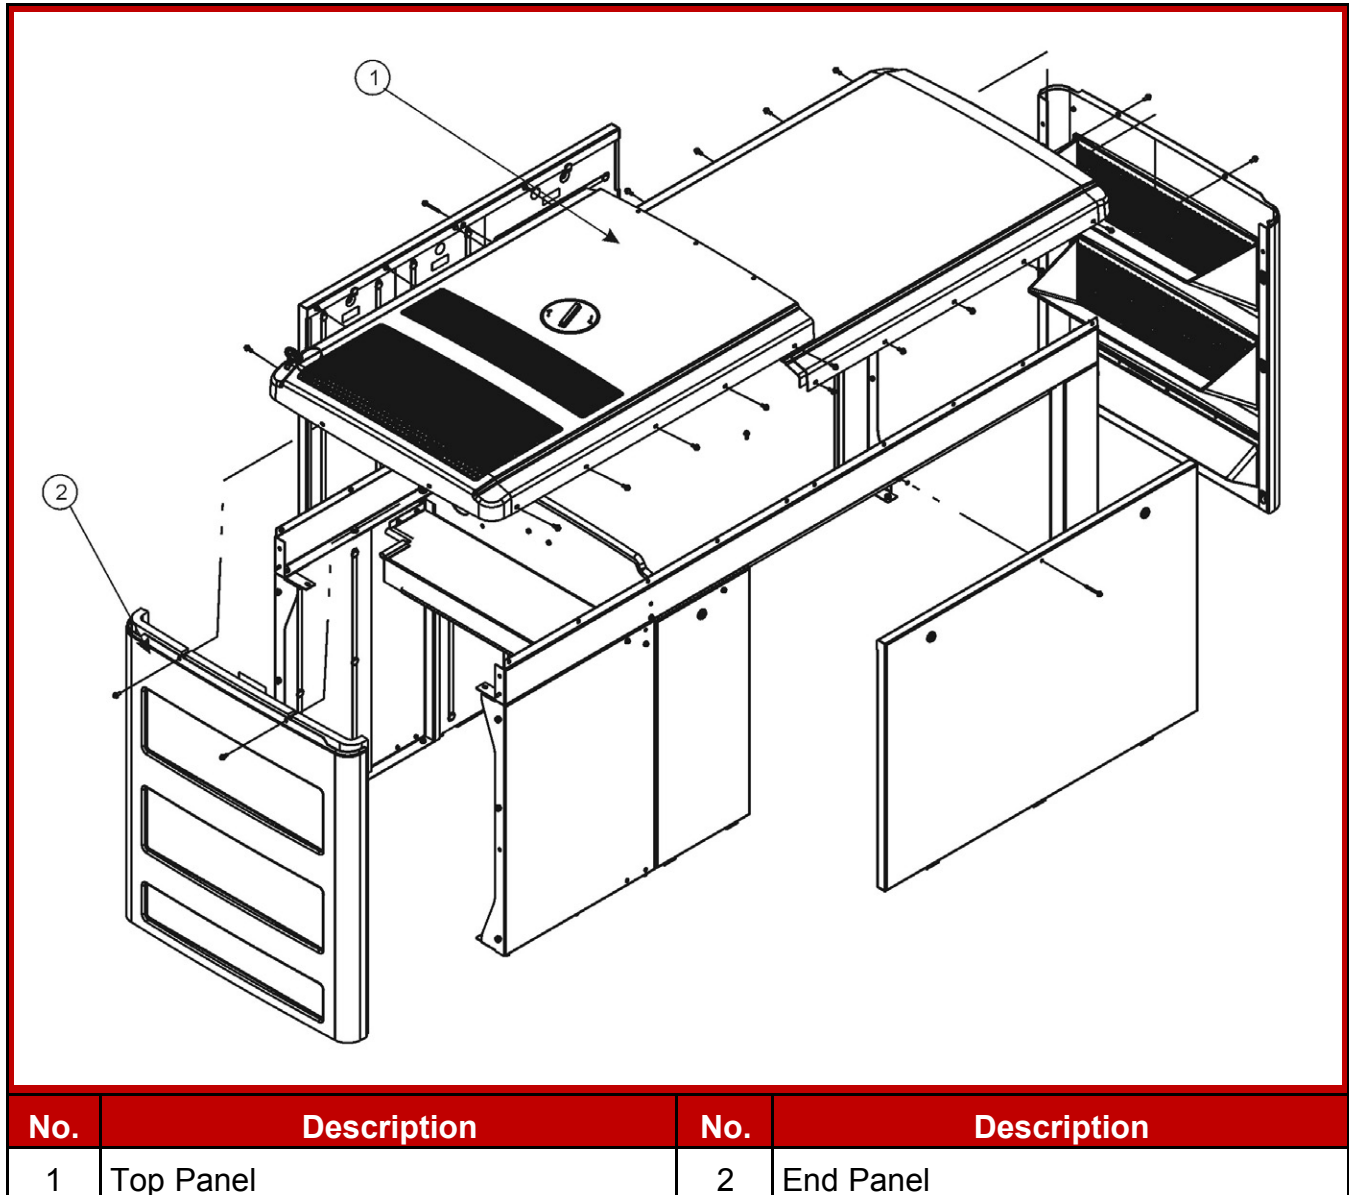

FIGURE 18. ENCLOSURE END PANEL REMOVAL
1. Place the end panel (2) on each side panel locating pin. Refer to Figure 18.
2. Slide the end panel (2) down to latch the panel onto the locating pins.
3. Attach the top panel (1) with bolts on three sides and the top.